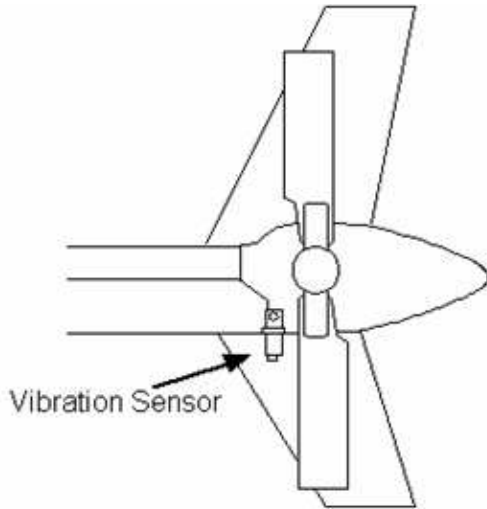

Figure 1
2. Install the 991D-1 Vibration Sensor (Item 5) into the 1/4 x 28 Sensor Mount (Item 7) and attach to the left hand side of the tail boom with the connector pointed down. **The connector must point down.** (Figure 1)